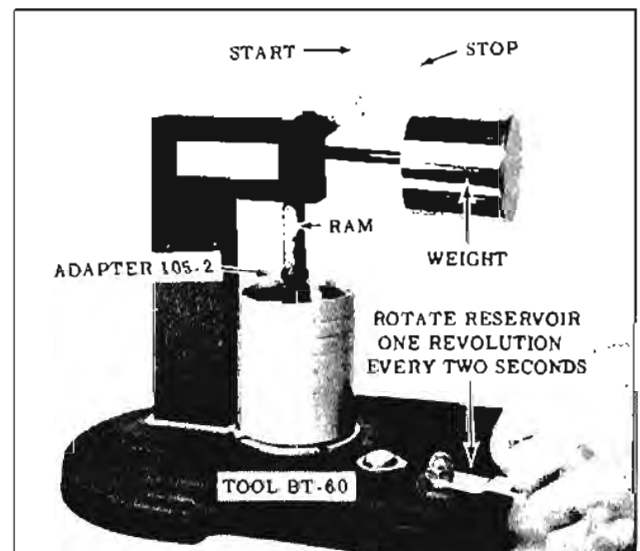

Fig. 8-114 Valve Lifter Bleed Down Test
12. Raise arm, then start test by resting ram on steel ball. Rotate reservoir one revolution every 2 seconds and time the indicator from the start to the stop line. (Fig. 8-114) Allowable tolerance for leak-down rate is 8 to 40 seconds for used lifters and 12 to 40 seconds for new lifters.